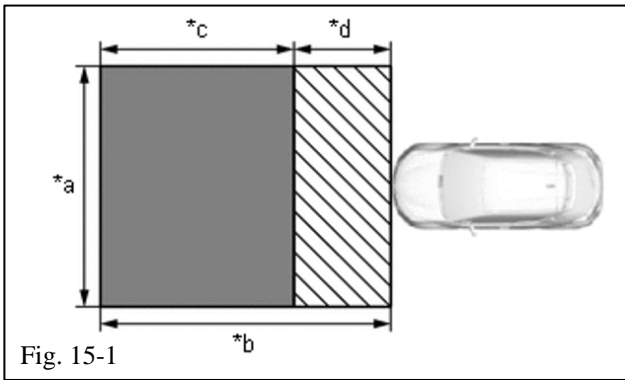

Fig. 15-1
- (a) Park the vehicle on a level surface where the area in front of the vehicle shown in the illustration is free of metal objects (Fig. 15-1).